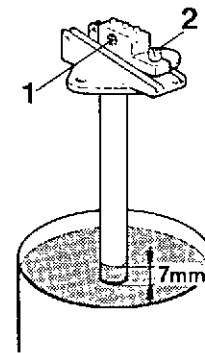

Fig. 25. Temperature switch for alarm and automatic stop. When testing, the sensor body should be immersed 7 mm (0.28") into the warm liquid.
NOTE! The temperature reading shall be made whilst the temperature is rising. Remove the temperature switch and immerse its sensor into liquid as shown in fig. 25. The contacts should open at a temperature of $110^{\circ} \pm 2^{\circ} \text{C}$ ($230^{\circ} \pm 3.6^{\circ} \text{F}$). Adjust, if necessary, by unscrewing the lock nut and turning the adjuster screw (2). Screwing in raises the opening temperature. Re-lock the screw after adjustment.
Remove the temperature switch and immerse its sensor into liquid as shown in fig. 25. The contacts should open at a temperature of $88^{\circ} \pm 2^{\circ} \text{C}$ ($190.4^{\circ} \pm 3.6^{\circ} \text{F}$). Adjust if necessary, by unscrewing the lock nut and turning the adjuster screw (2). Screwing in raises the opening temperature. Re-lock the screw after adjustment.